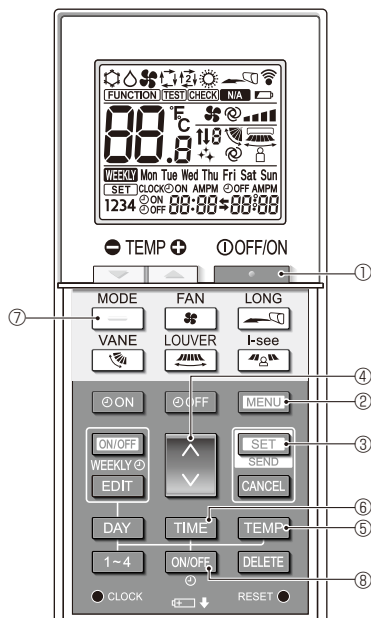

Fig. 6-9
1. Press the **★** button ① to stop the air conditioner.
2. Press the **SET** button ③ in 5 seconds. Model setting screen will be displayed.
3. Press the **—** button ⑦. Operation mode Ⓐ blinks. (Fig. 6-9)
4. Press the **↓** button ④ to change setting No.
5. Check that setting No. "6" is displayed and only blink at operation mode Ⓐ, then press the **SET** button ③ in 5 seconds.